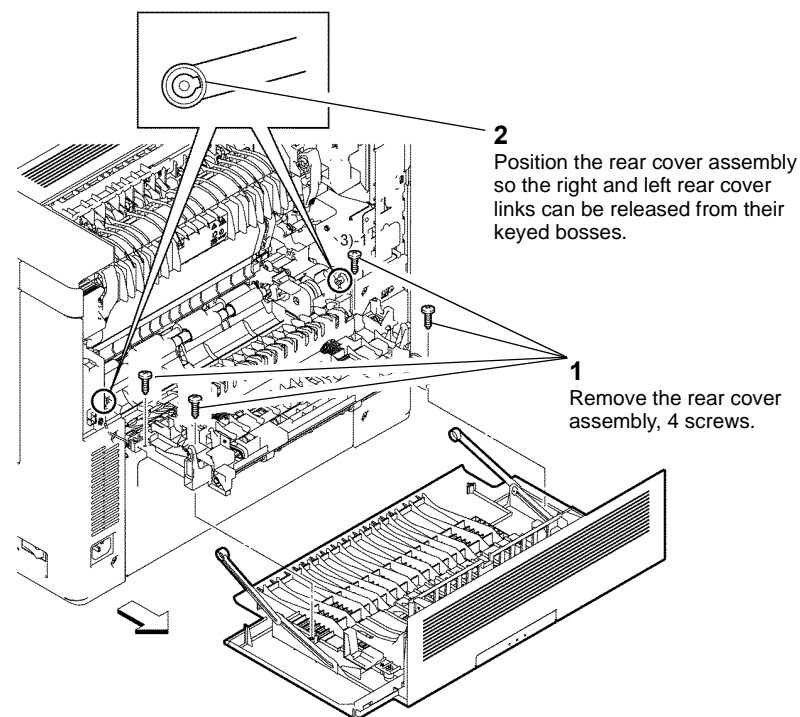

Figure 1 Rear cover assembly C400
2. Remove the rear cover assembly, Figure 1.